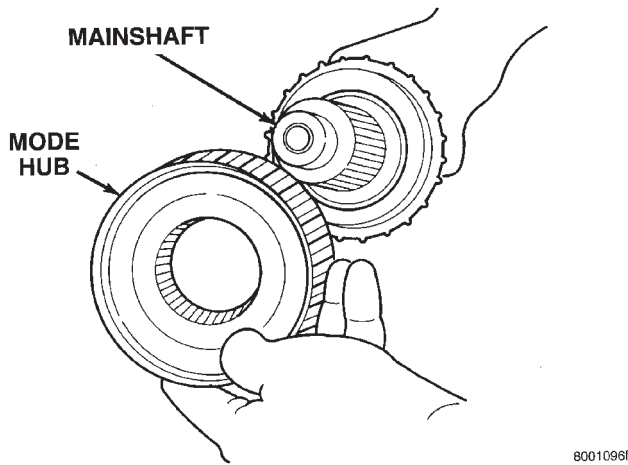

Fig. 24 Mode Hub Removal
(3) Slide mode hub off mainshaft (Fig. 24).